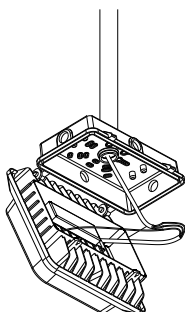

Figure 1-5
- 5.Connect the input line and ground; If the fixture is equipped with sensor, adjust the sensor settings,Take relevant waterproof measures after the wires are connected ;Figure 1-5